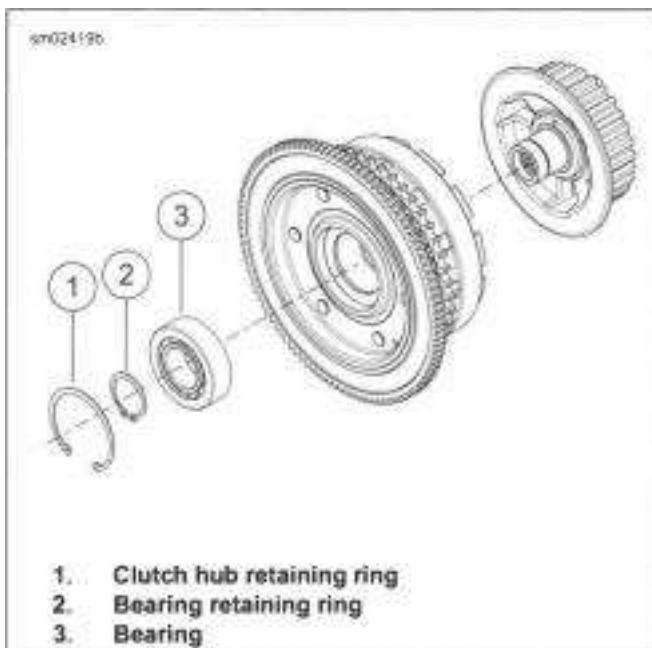

Figure 5-24. Clutch Retaining Rings
- a. See Figure 5-24. Remove clutch hub retaining ring (2).
- a. See Figure 5-24. Remove bearing retaining ring (1) from groove in clutch shell bore.
- d. See Figure 5-24. Install bearing retaining ring (1) with flat side toward bearing.
- e. See Figure 5-24. Install clutch hub retaining ring (2) in groove of clutch hub.